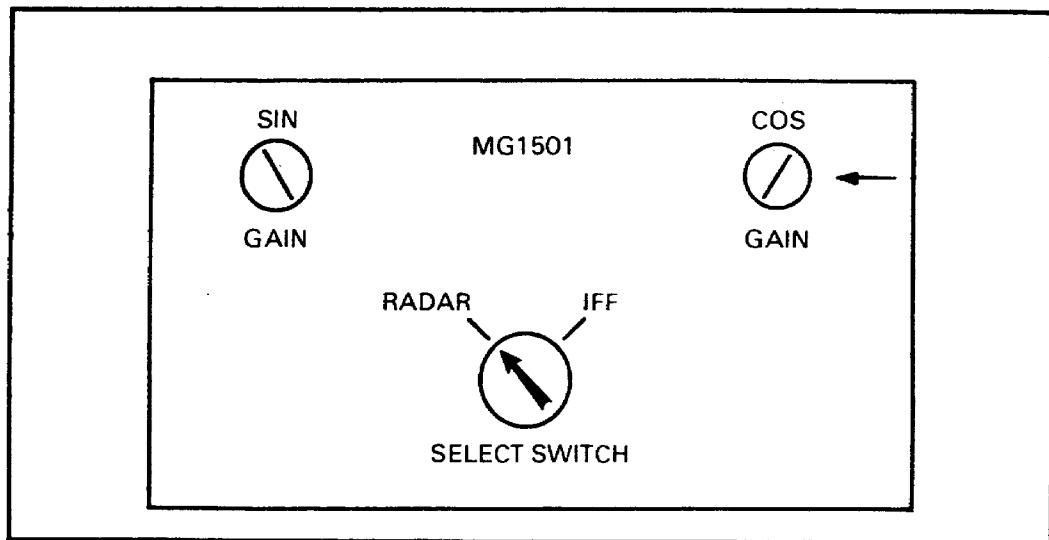

Figure 19. Adjustment of cosine gain control on MG-1501.
1. Have your assistant rotate the azimuth antenna until you have a maximum voltage indication on the multimeter. Adjust the cos gain control on the radar sine-cosine converter MG-1501 for a ± 36 volts DC. (See Figure 19.) Record reading _____.